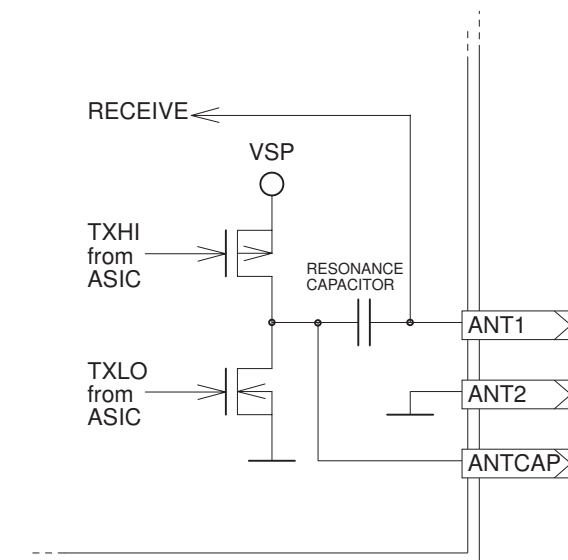

Figure 1-4. Antenna Circuit Block Diagram
ANTCAP (17)	It is possible to use antennas of lower inductance by connecting a suitable capacitor between ANT1 and ANTCAP. This additional capacitor (ceramic, 100 VDC) will be in parallel with the 30 nF resonance capacitor on board the Micro-reader (see Figure 1-4 and Appendix C).